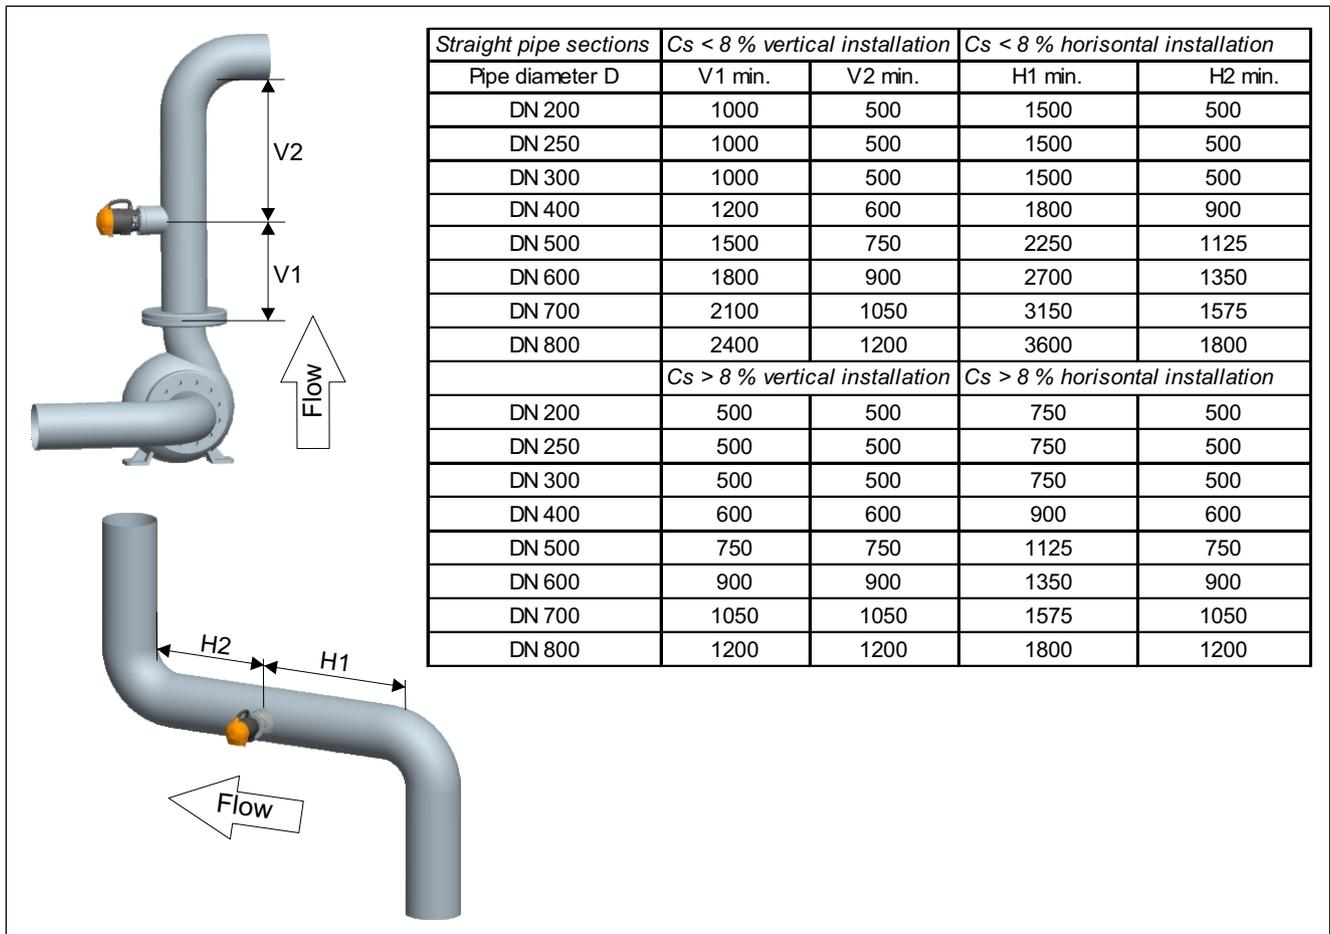

Fig. 5. Calming distances.
2. Recommended minimum distances, see Fig. 5 and 6.
In case of installation in an inclined pipe position use the calming distance given for horizontal pipes. All lengths are calculated in the table in Fig. 5.